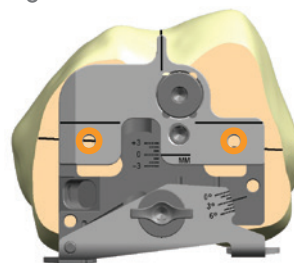

Figure 15
- 5 Once both the AP and rotational measures are desirable relative to the anatomic landmarks, drill about a 1 inch (25mm) deep hole through each of the two holes in the drill guide (Figure 15).